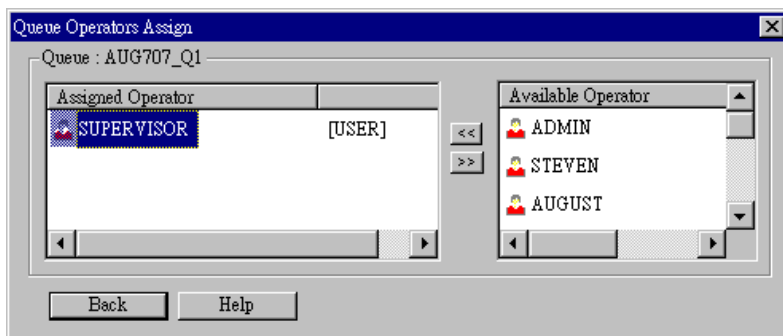

Figure 18: Assign Operator to Queue (Bindery)
- Operator** Assign Operators to the NetWare Print Server object. (Optional) These operators will then have permission to manage the NetWare Print Server object. The screen is identical to *Figure 18: Assign Operator to Queue (Bindery)*.